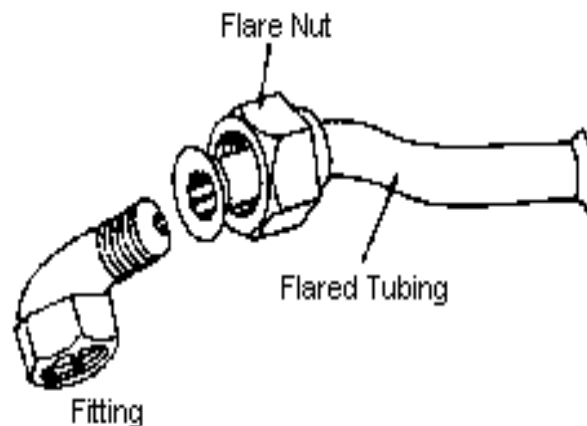

Figure 12, Flaring
- **Flaring.** An easy and satisfactory method of joining copper tubing is done by flaring the ends of the tubing and pressing the flared end against the tapered surface in the fittings and then screwing the flare nut tight over the end of the fitting (Figure 12).